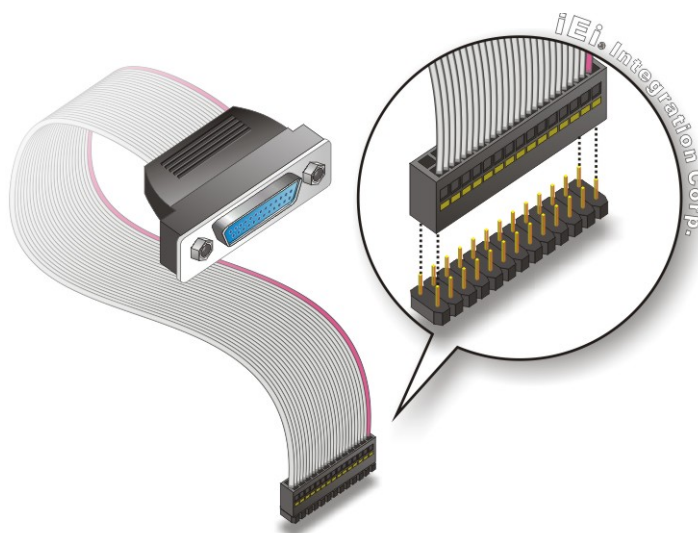

Figure 4-6: LPT Cable Connection
Step 2: Align the connectors. Correctly align pin 1 on the cable connector with pin 1 on the PCIE-9452 LPT box-header connector. See **Figure 4-6**.
Step 3: Insert the cable connectors Once the cable connector is properly aligned with the 26-pin box-header connector on the PCIE-9452, connect the cable connector to the onboard connector. See **Figure 4-6**.